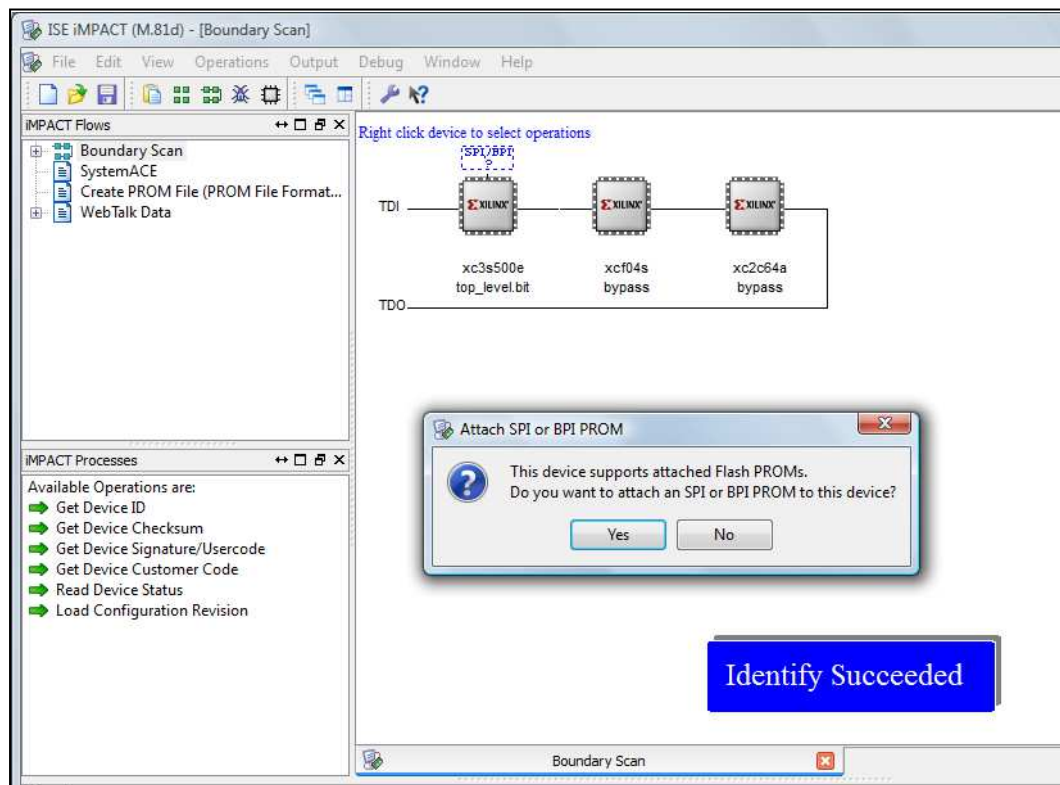

Figure 5.43: iMPACT window, dialog box asking if we wish to attach an SPI or BPI PROM.
9. A message stating “This device supports attached flash PROMs. Do you want to attach an SPI or BPI PROM to this device?” will appear (Figure 5.43). This is not needed for this design. Click **No**.